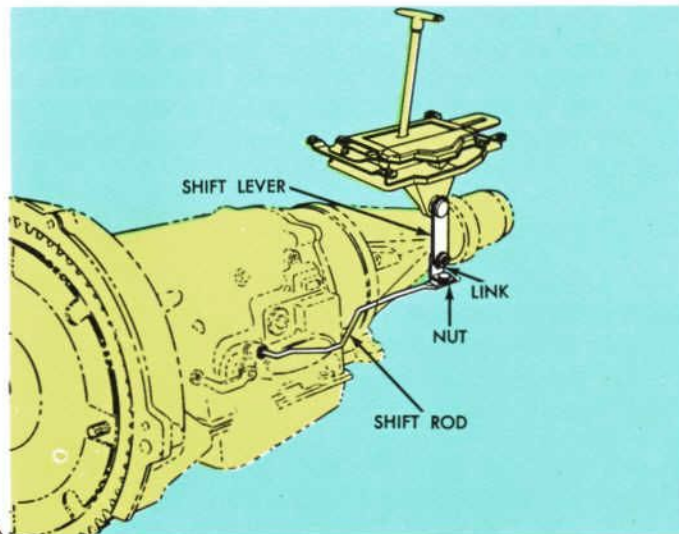

Fig. 90—Shift Linkage—Console Shift
- ① Move the selector to D1.
- ② Loosen the nut (Fig. 90) that holds the manual lever control rod to the shift lever link.